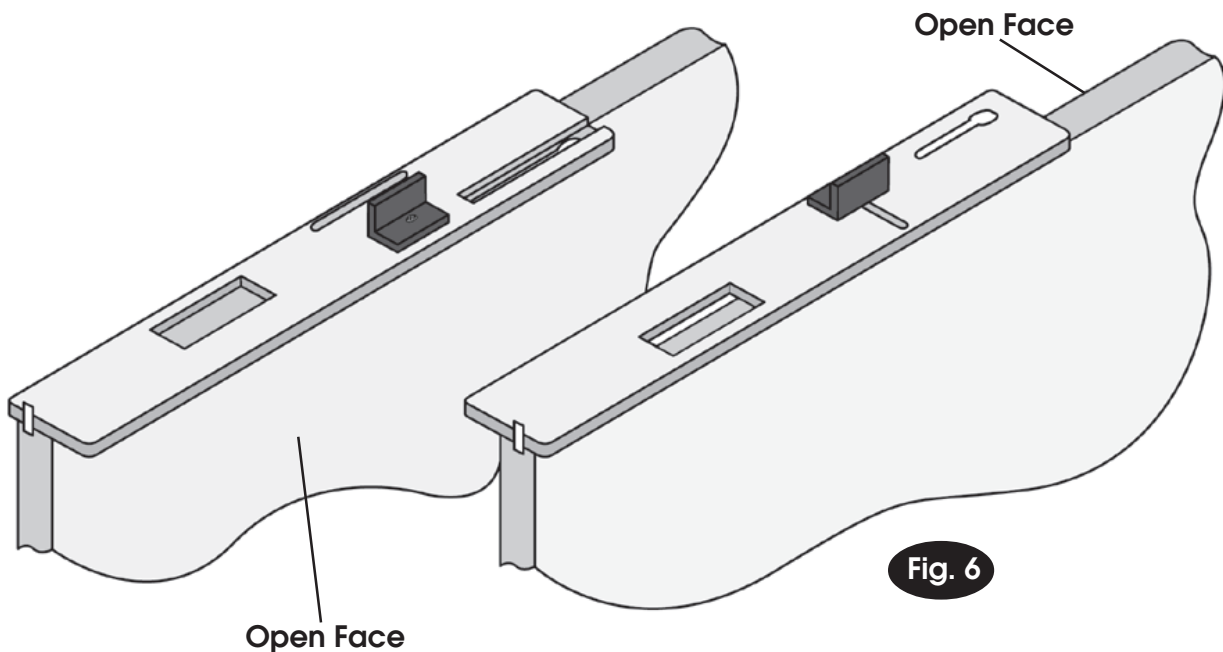

Fig. 6
3. Loosen the end swivel securing screw on the top plate and turn the swivel through 90° so that the top plate is flush with the top of the door, (see Fig. 6). This will set the aperture for the top hinge 6" from the top of the door.
**NOTE: the hinge plates can be positioned upside down so that the connecting bars sit underneath. This is dependant on which side is the open face of the door (see Fig. 6).**